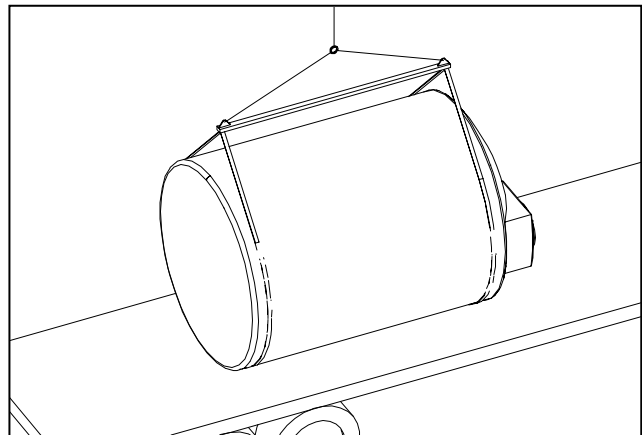

Figure 2
- Dominator/Low Profile septic or cistern tanks [see figure 2 and 3]: